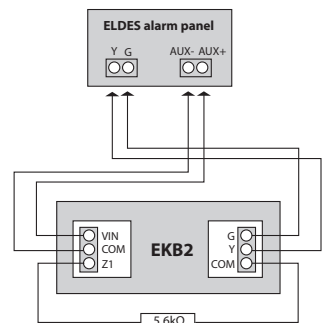

Fig. No. 6
5. Connect keyboard connectors to ELDES alarm panel respectively – Vin to AUX+, COM to AUX-, Y to Y, G to G. Keyboard Z1 zone connect to keyboard COM with 5,6k $\Omega$  resistor (see Fig. No. 6).